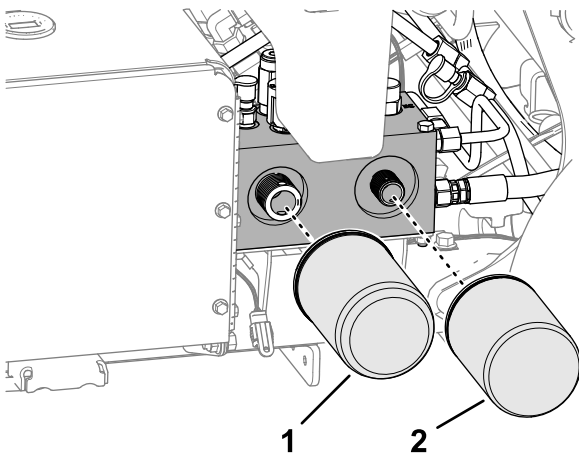

Figure 181
2. Place a drain pan under the filters, remove the old filters, and wipe the filter adapter gasket surface clean (Figure 181).